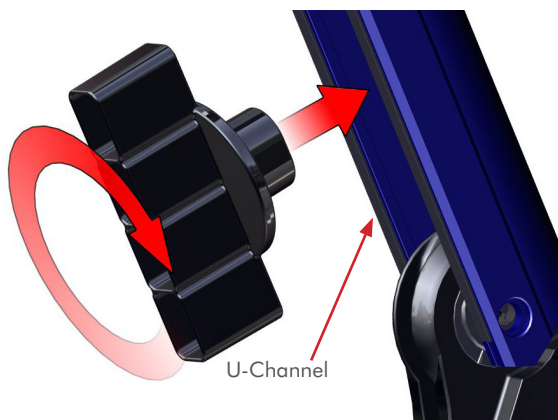

Figure 5
STEP 6 Insert and twist the spreader block to remove the **Top & Bottom U-Channels** from the **Stern Bracket**. **FIG 5**